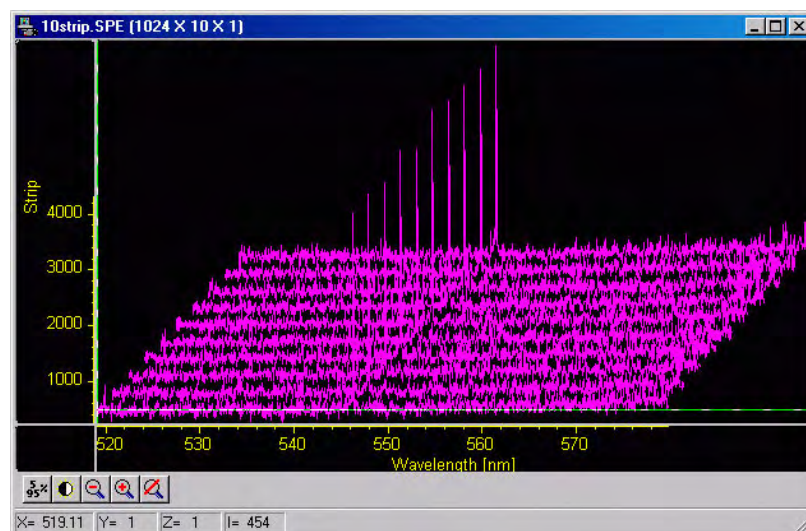

Figure 44. 3D Image Display of 10 Data Strips
- ⇒ If there are at least three data strips but less than eleven, the data will be plotted as a 3D Graph as shown in Figure 44 (page 63).
⇒ If there are at least three data strips but less than eleven, the data will be plotted as a 3D Graph as shown in Figure 44.